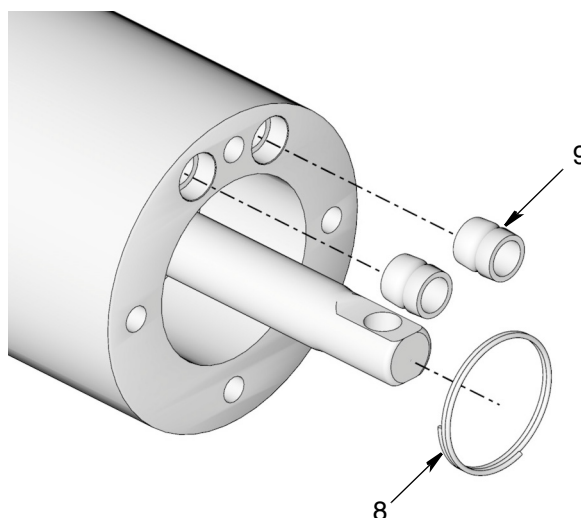

FIG. 26
13. Remove spring (8) and two seals (9). Put spring in a safe place to use it for reassembly. The seals (9) can be discarded. Use the new seals included in the kit for reassembly (FIG. 26).